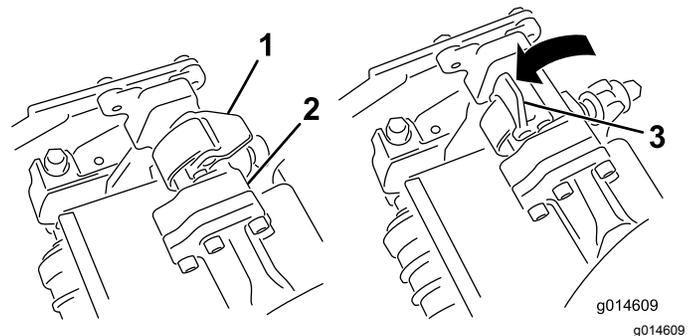
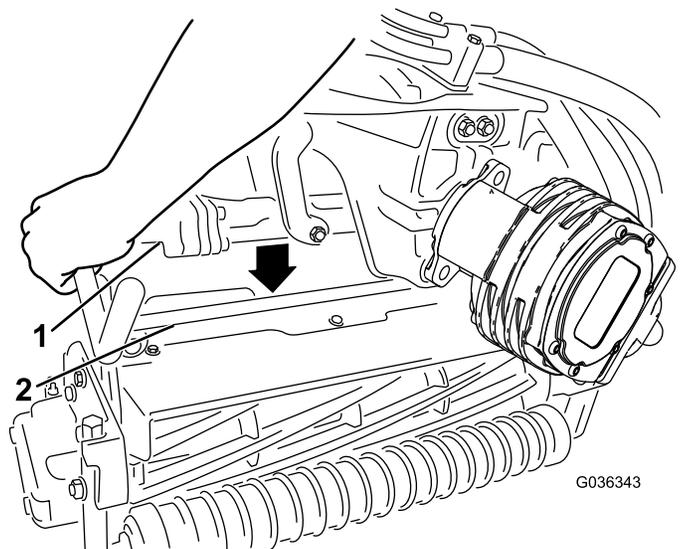

Figure 49
Figure 50
4. With the latches on the suspension-arm bar pointing up (i.e., open) (Figure 49), push the suspension arm down so that the bar fits over the bar across the top of the cutting unit (Figure 50).
- Close the latches down and around the cutting-unit bar and lock them in place (Figure 49).
5. Open the latches on the suspension-arm bar of the cutting unit you are removing (Figure 49).